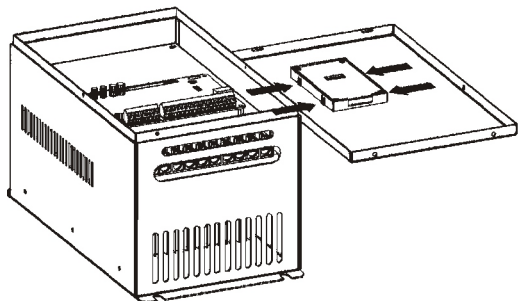

Fig. 3-12 Mounting Diagram of the operator panel and connecting wire of the inverter Model B
Step 2. Press the direction that the arrow points to strenuously and push outward to remove the operator panel (as shown in Figure 3-12).